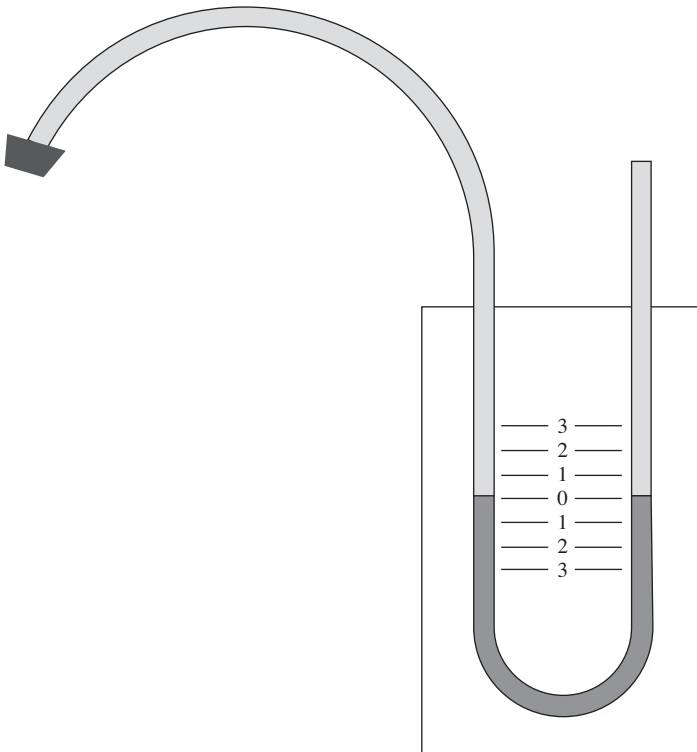

FIG. 7-9 A manometer is a versatile tool with many applications, such as, for example, checking propane pressure on gas-fueled gensets.
1. Secure a 6-ft-long, ½-in.-diameter clear plastic tube to a 10 × 30-in. piece of ½-in. plywood (Fig. 7-9). The U-shaped bend in the tube should be gradual.